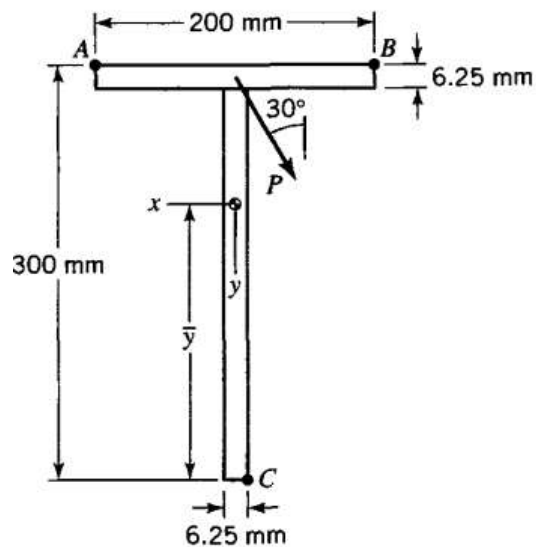

Figure 2
4. A T-shaped cantilever beam of structural steel is subjected to a transverse load P at its free end (Figure 2). The beam is 6.1 m long. According to the Tresca yield criterion, the material yields when the maximum shear stress reaches 165 MPa. Determine the maximum load P . 15 M